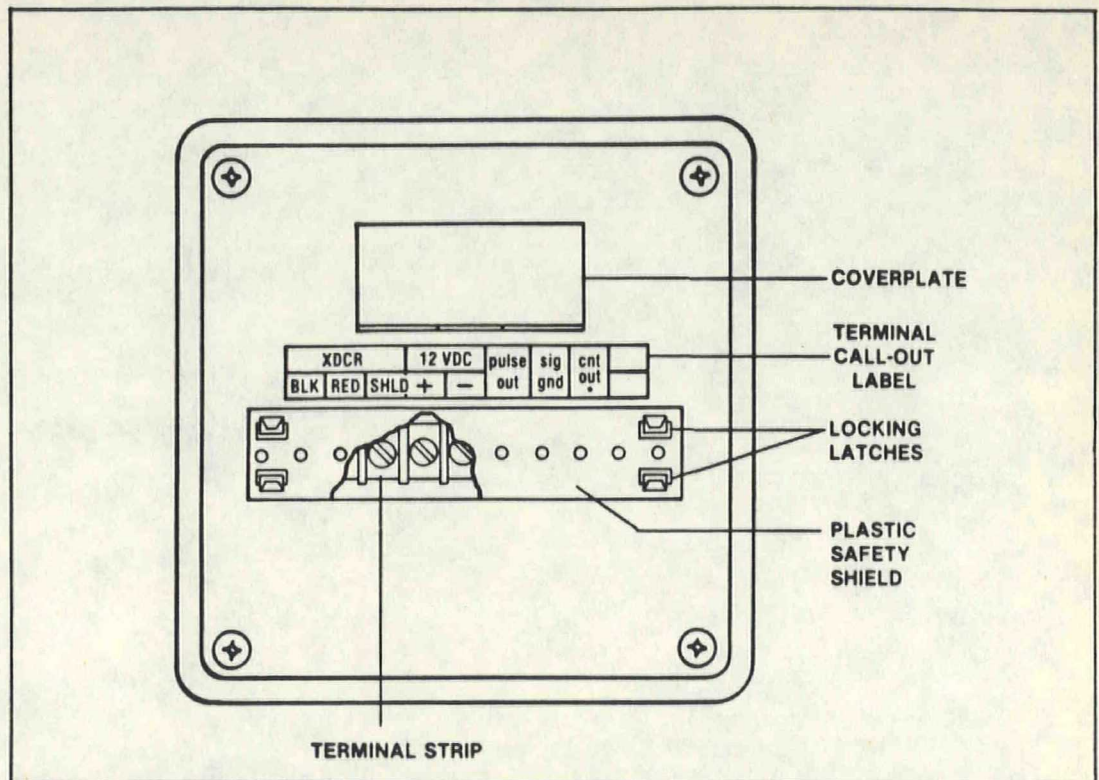
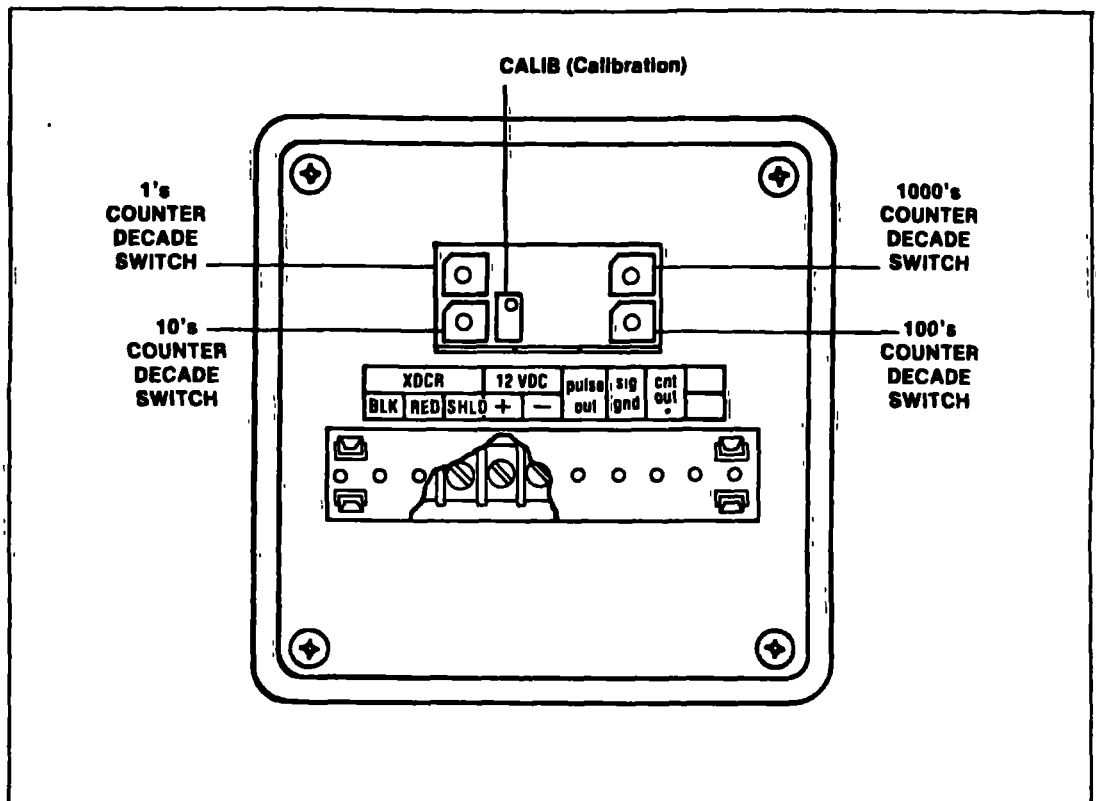

Figure 3. Rear view of MK 575 with coverplate in place over calibration and counter controls.
Figure 6. Rear view of MK 575/575R with calibration and counter controls exposed.
6. Remove the plastic safety shield from the rear terminal strip by pinching inward each pair of plastic locking latches. Then connect the Flosensor output cable to the appropriate XDCR (transducer) terminals on the rear of the indicator case (see Figures 3 and 4).
The input module of the MK 575 conditions the Flosensor signal. The processor circuitry then forms the conditioned input signal into square-wave-shaped, precision width, noise-free positive pulses. The pulses are also separately amplified and are available to drive external instrumentation, including other Signet indicators and controllers, at the PULSE OUT terminal on the MK 575's rear panel (see Figure 3). Internally, these pulses are input to a frequency-to-current converter. This circuitry employs a constant-current generator where the pulse waveforms are converted to a current in a closed-loop system by charging a capacitor, with this charge being directly proportional to the frequency. This current drives the Flometer's meter.
The pulse signal is connected to a presettable divide-by N counter circuit. The counter divides the pulse frequency by a preset number. This number, N, is the number dialed into the rear-panel rotary decade switches, plus one (see Figure 6). For example, if 378 is dialed into the switches, the counter will divide by 379. The divider has a division range of 2 to 10000, corresponding to switch settings from 0001 to 9999. The counter also provides an output to drive an external counter, pump, or other equipment at the CNT OUT* terminal on the rear of the MK 575 (see Figure 3).
Recalibrating the counter circuitry can be accomplished in the field simply by resetting the decade rotary switches on the rear of the MK 575 case (see Figure 6) using the appropriate K factor (pulses/gallon or pulses/liter) from Table 2 in the following equation: